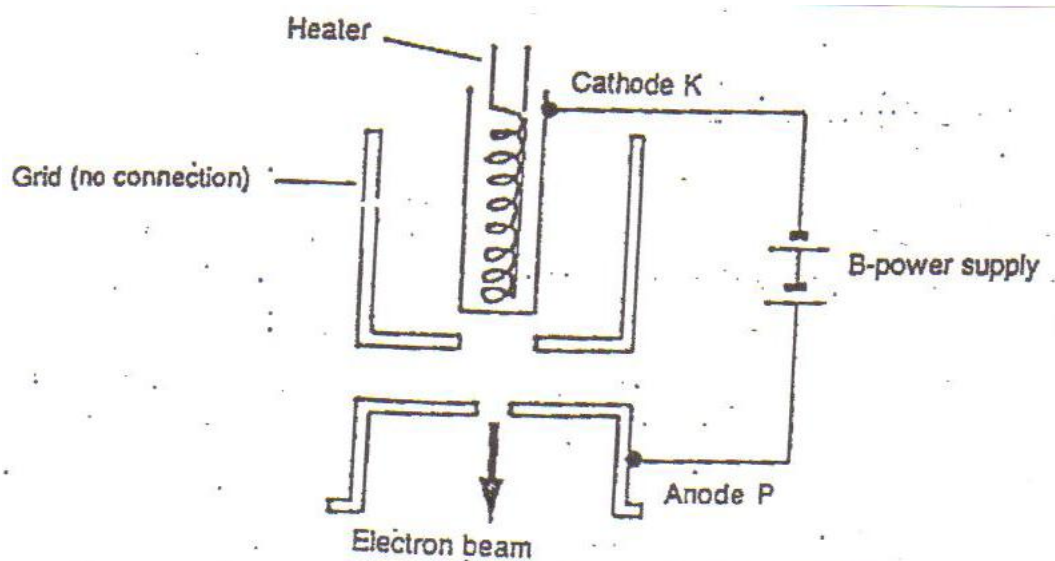

Figure 2: Electron Gun
Figure 2 illustrates the electron gun used to accelerate electrons by means of an applied electromagnetic field.
The Cathode K (Figure 2) is heated, releasing thermal electrons, whose motion is accelerated by the electric potential (V) applied between anode P and Cathode K. The velocity ( $v$ ) of an electron accelerated by the electric potential (V) applied at the anode, can be calculated using the Law of the Conservation of Energy, as follows (ignoring the initial velocity of the electron as it is discharged from the cathode):